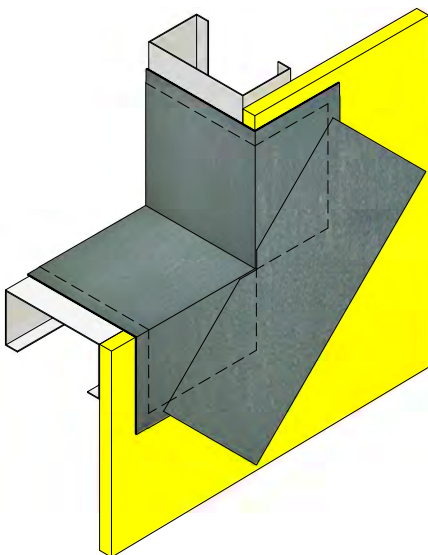

Figure 8
4. Apply additional SENERSHIELD-R or SENERSHIELD-VB over the areas to receive additional SHEATHING FABRIC. (See Figure 8)